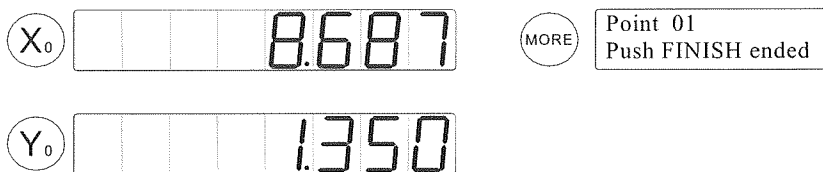

Figure 2-43 Angle Measure
- b. Move the stage to place the crosshairs over the first point of the first line and press the  key. The location of the targeted point will be shown as in figure 2-43 and the number of data points entered for this line will be added.
When all of the points have been entered, press the  key. A new line will be calculated and its data will be saved in the EEPROM. Then LCD displays “Second line”, “Probe line”, last the LCD displays the message as in figure 2-43, and the figure indicates the beginning of the targeting sequence for the second line of the angle.